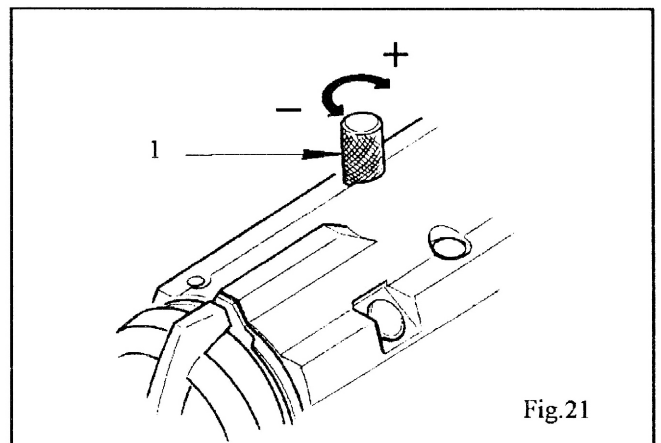

Fig.21
To regulate the presser foot pressure, turn knurled thumb screw (1), Fig. 21, toward left or right as required.